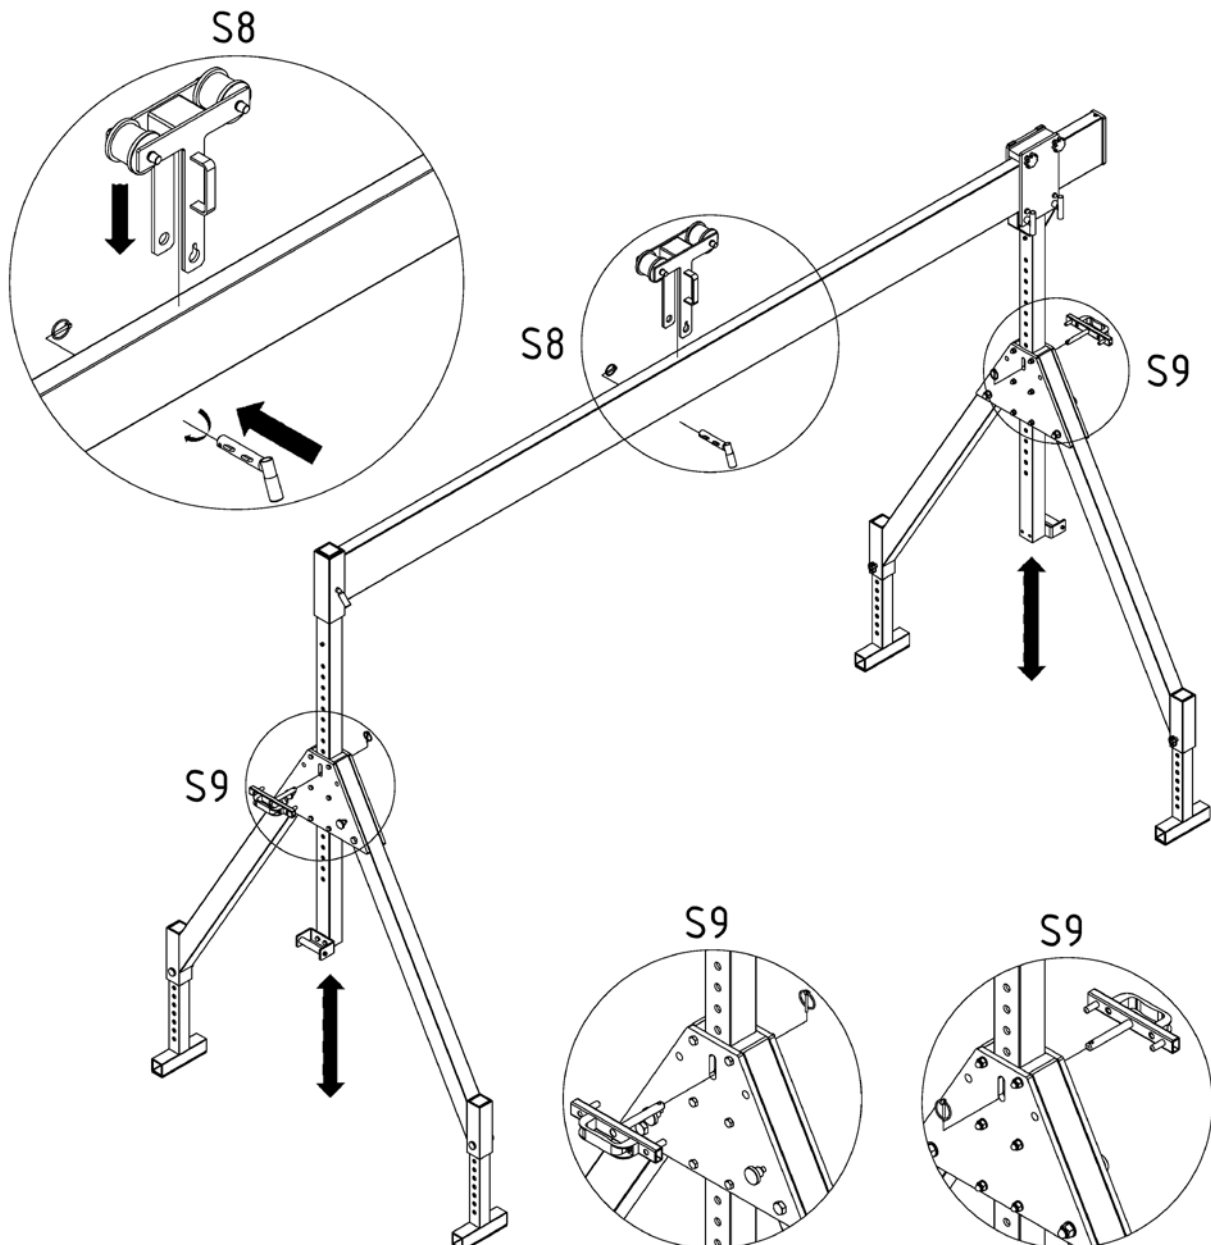

Fig. 4
- 7.5 Next, place the trolley on to the aluminium carrier as shown in fig. 4 and insert the plug-in bolt for the trolley into the corresponding guide.